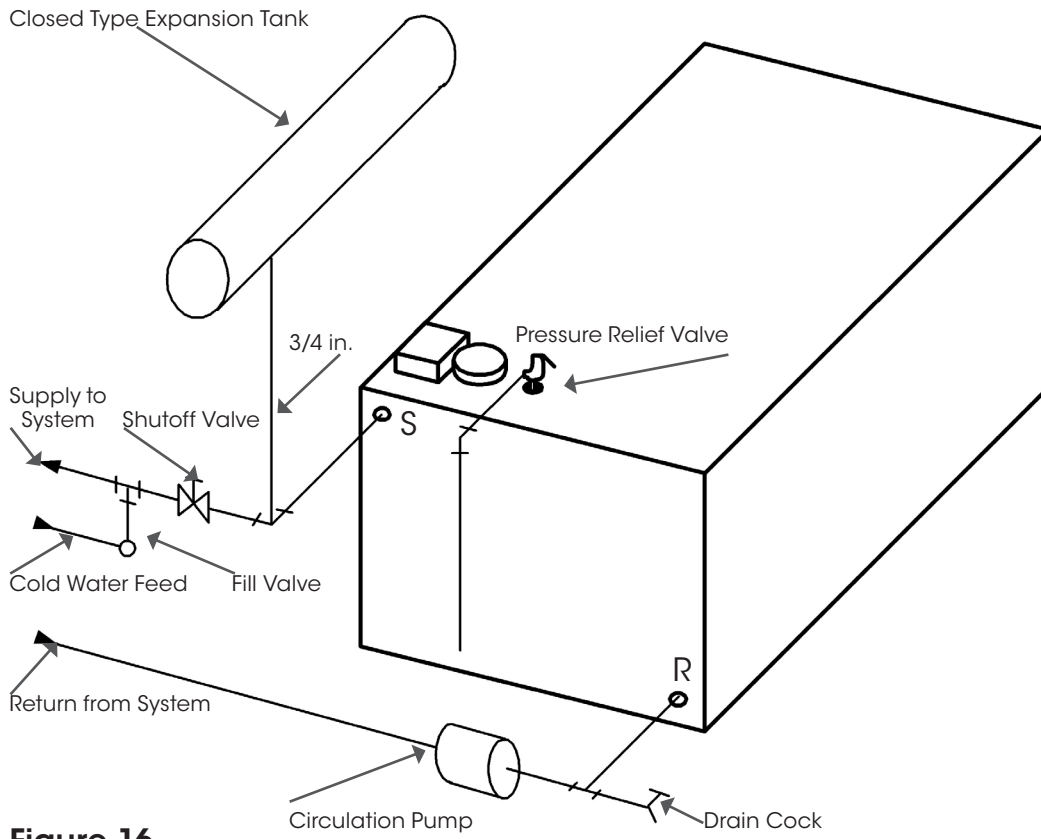

Figure 16
- Piping Connections with closed type expansion tank—See Figure 16. Piping from tee in supply to tank should be 3/4 inch. If horizontal piping is employed, pipe must be pitched up toward tank 1/4 inch per foot.